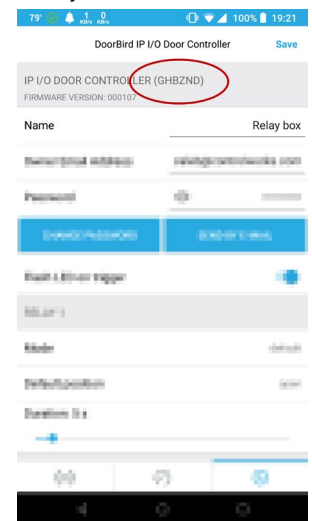

Figure 17 - Relay box username
- Next tap the bell icon, and tap the globe icon for HTTP Calls (figure 17). In the middle of the page next to globe icon, you will see text appear.